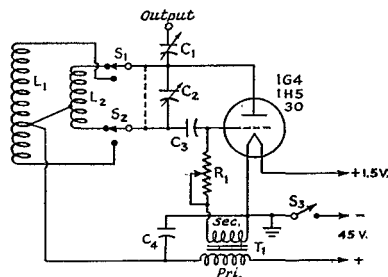

Fig. 3 — A battery-powered signal generator for 450 and 1500 kc.
Fig. 3—Development of the “space line” from a parallel-conductor transmission line. The two-wire line (A) has a characteristic impedance, Z_0 , depending on size and spacing of conductors and properties of intervening dielectric. For maximum power transfer from source to line, Z_I and Z_0 must be matched. This is accomplished by a coupling line (matching section).
HERE at our ATC Headquarters, I do the radio servicing work for our Special Service section as well as the majority of the work on the fellows' personal radio sets. I needed a small signal generator and tried out one originally designed by P. W. Winsford, G4DC. After slight modifications the circuit now appears as shown in Fig. 3. The location of the taps on the coils